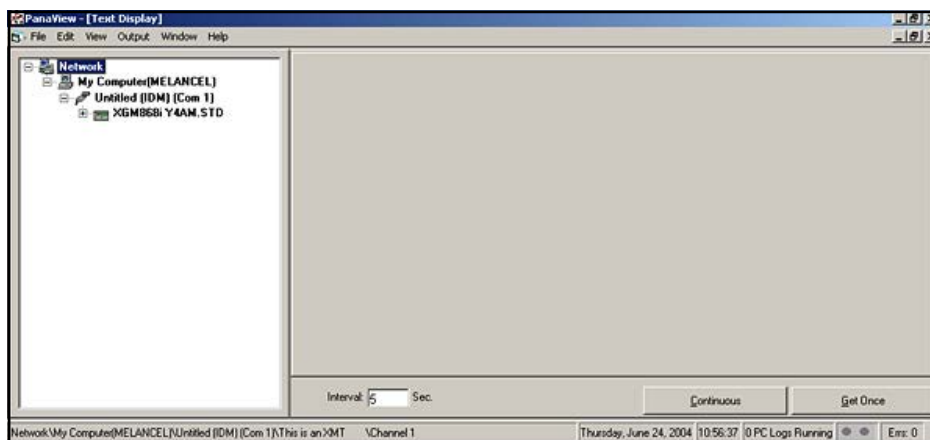

Figure 20: The text display window
2. Using the Window menu, as described in the PanaView manual, arrange the open windows in the desired format. For this discussion, Figure 20 shows the Text Display window in its maximized (full-screen) size.
5. Before actual data values can be displayed in the text pane, activate one of the following data collection modes (see *Figure 20* above):